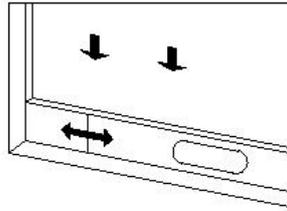

Figure 2
- Half open the window and mount the window sealing plate assembly to the window (as shown in Fig.2 and Fig.3). Components can be placed in horizontal and vertical direction.